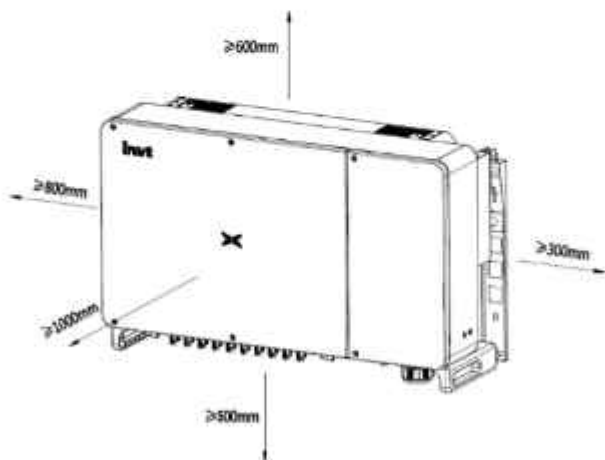

Fig 4.4 Installation spacing of inverter
(3) When installing multiple inverters, a certain distance should be reserved between the inverters, as shown in Figure 4.4. At the same time, sufficient distance should be reserved between the upper and lower parts of the inverter to ensure good heat dissipation.